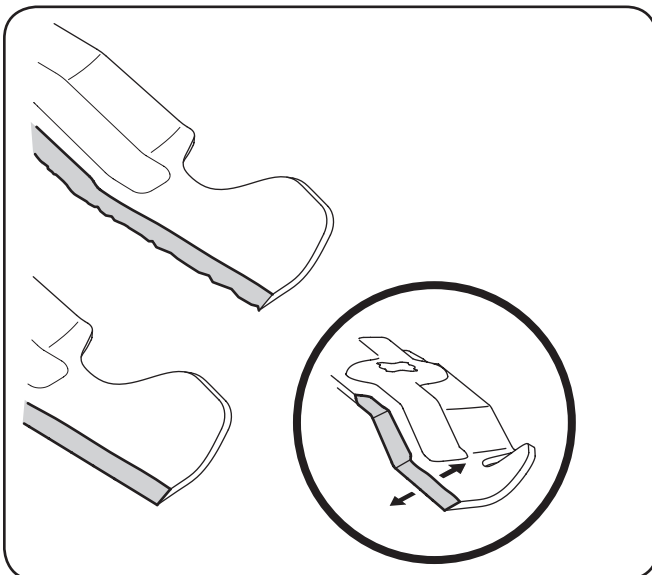

Figure 7-10
- To properly sharpen the cutting blades, remove equal amounts of metal from both ends of the blades along the cutting edges, parallel to the trailing edge, at a 25°- 30° angle. Always grind each cutting blade edge equally to maintain proper blade balance. See Fig. 7-10.